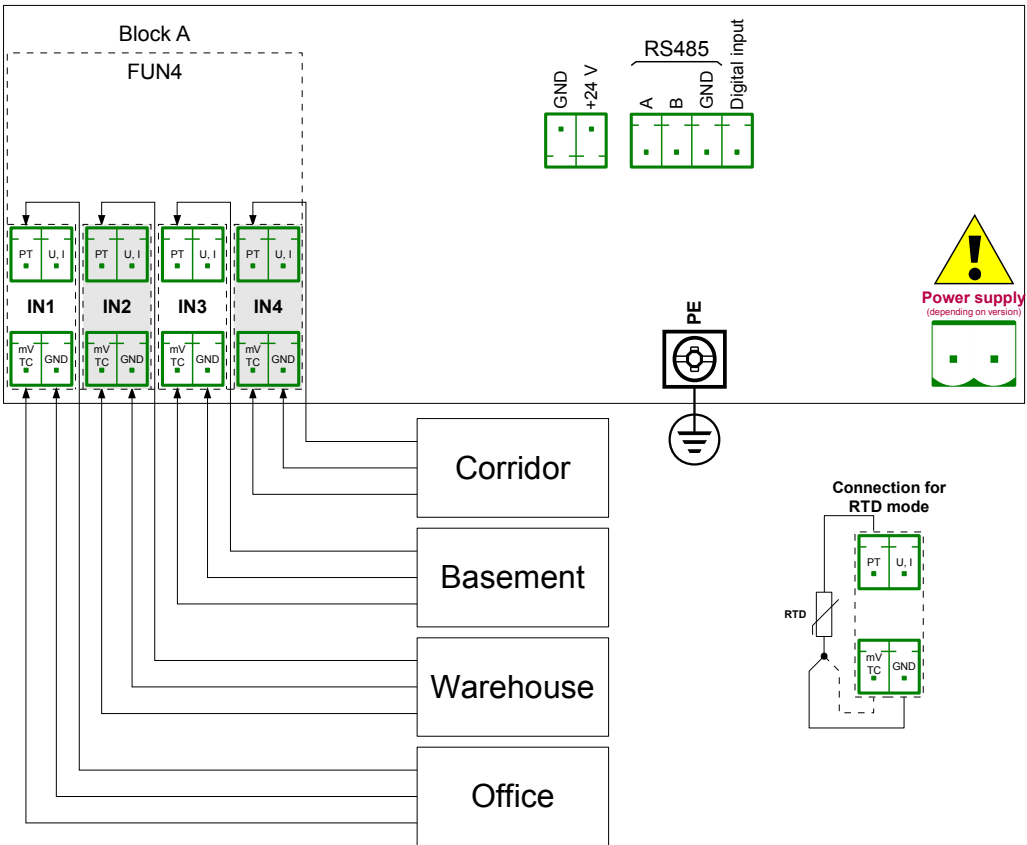

Fig. 7.70. Schematic diagram for the FUN4 hardware configuration
Before measuring the temperature the user should configure the device and then connect the sensors as shown in **Fig. 7.70**.
- **Source** parameter set as **Inp. B1: Universal** (see the connection in **Fig. 7.70**),